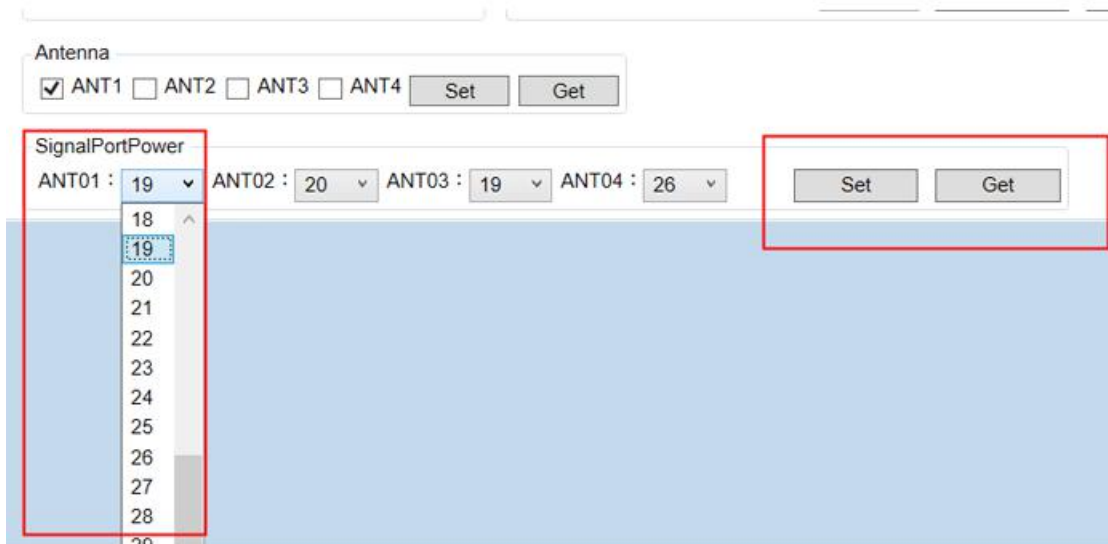

Figure 7
4.2 Set the power of each port of the reader separately: each port of the device can set the power separately, as shown in "Figure 7", select the value to be set in the power drop-down box of each antenna port, and click Set. Click "get" to obtain the current power of each port.